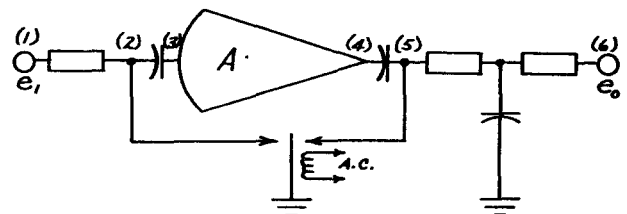

FIG. 3 - CHOPPER AMPLIFIER
plished in the TCA by means of an a-c amplifier and chopper as shown in Figure 3. Input and output capacitors block d-c to provide drift-free gain in the a-c amplifier. Through the use of a chopper, a d-c signal may be modulated, amplified as a-c and demodulated back into d-c thus achieving driftless d-c amplification.
The chopper coil is energized from an a-c source causing alternate grounding of the input and output circuits of the a-c amplifier. Referring to both Figures 3 and 4, a constant d-c voltage at terminal (1) is chopped at junction (2) into a square wave as shown in curve (b). This square wave will pass through the input capacitor as shown in curve (c) to be amplified as shown in curve (d). During the time the input chopper contacts are open the output contacts are closed so that only negative portions of the square wave appear at junction (5), curve (e). The output signal is next filtered leaving only the d-c component in the output as shown in curve (f). The a-c amplifier-chopper combination thus becomes a driftless d-c amplifier capable of amplifying either polarity of input. The frequency response of this amplifier is, however, limited because of the output filter.
If sufficient drift free gain can be obtained at the early stages of a d-c amplifier, effective and satisfactory drift reduction is possible. Chopper stabilization is a method for obtaining early stage driftless gain. Chopper stabilization is accomplished in the TCA by means of an a-c amplifier and chopper as shown in Figure 3. Input and output capacitors block d-c to provide drift-free gain in the a-c amplifier. Through the use of a chopper, a d-c signal may be modulated, amplified as a-c and demodulated back into d-c thus achieving driftless d-c amplification.